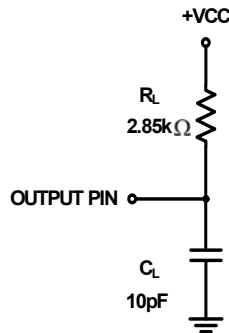

FIGURE 4. EQUIVALENT LOAD CIRCUIT
- During characterization, t_{DIS} is measured from the release point with a 10pF load (see Figure 4) and the equivalent timing using the ADS1286 loading (3k Ω , 100pF) is calculated.